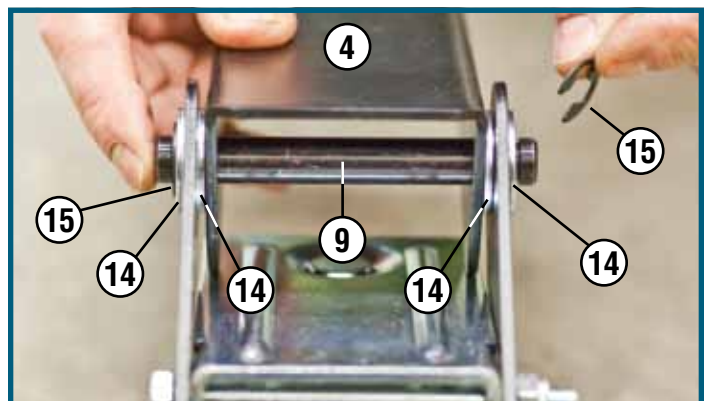
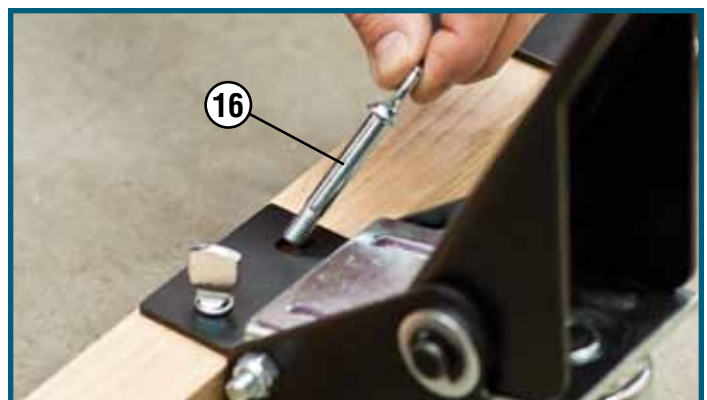

Fig. 9
Fig. 10
2. Attach the Foot Lever (4) to the Pivot Bracket (5) with the 1/2" x 4" Pin (9) and four 1/2" Flat Washers (14) and two Retaining Rings (15). **Fig. 9.**
**Note:** The 1/2" Flat Washers (14) should be between the Foot Lever (4) and the Pivot Bracket (5).
3. Position and attach the Pivot Bracket (5) to the board with two 5/16"-18 x 2" Thumb Screws (16). **Fig. 10.**